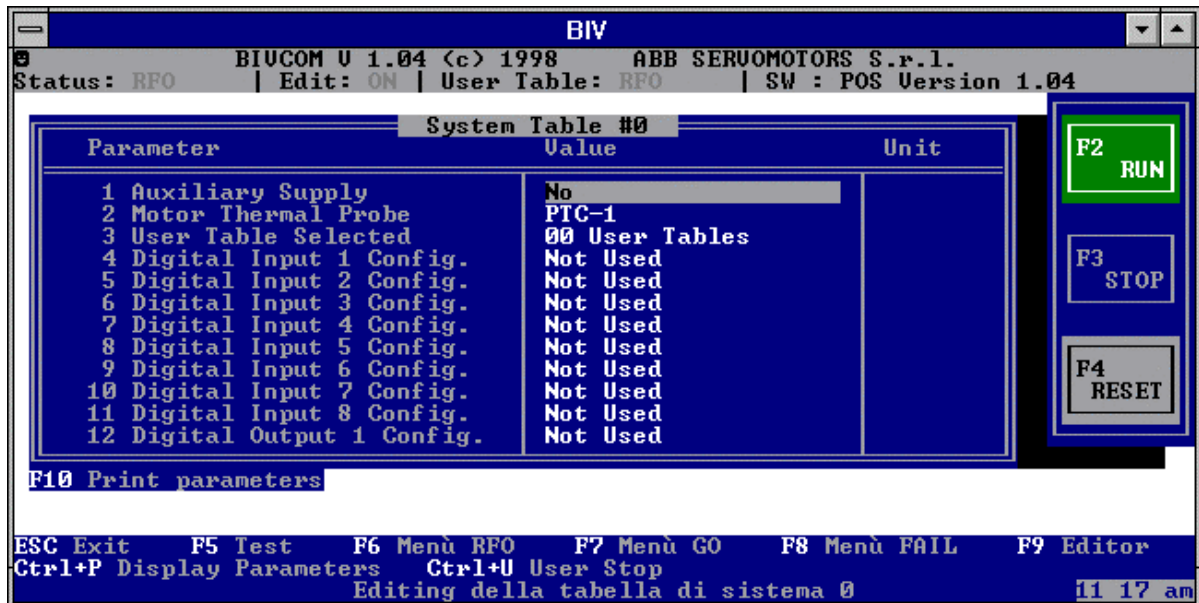

Fig. 7-7: Edit Menu – Table Contents Display
- It shows system parameters #0; only the highlighted parameters can be modified by user; see Fig. 7-7.